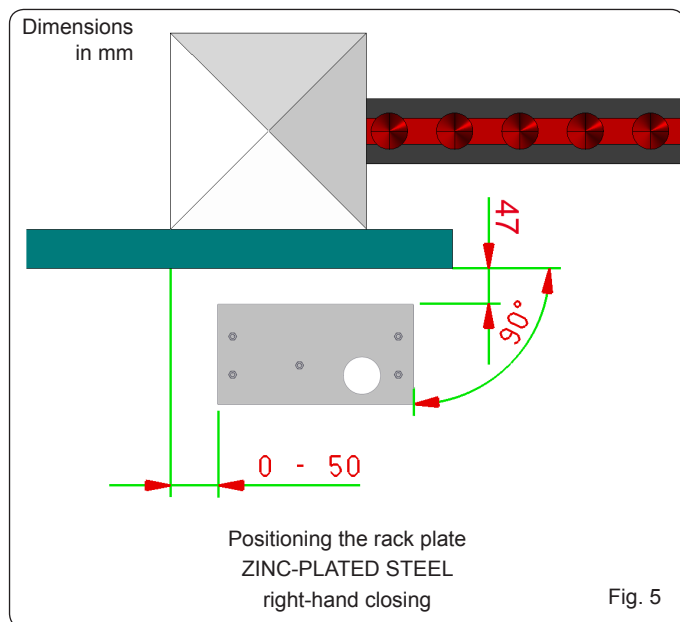
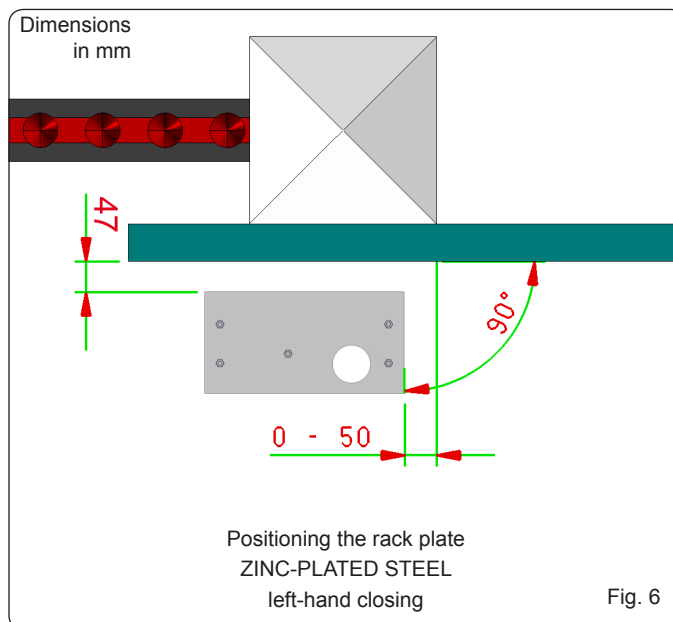

Fig. 5
Fig. 6
2. The foundation plate must be positioned as shown in Fig. 5 (right-hand closing) or Fig. 6 (left-hand closing) to guarantee the correct meshing between the pinion and the rack.